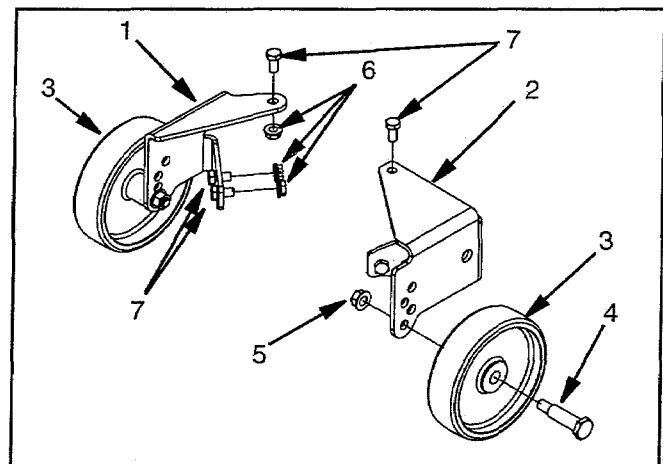

Figure 1
- Refer to Figure 1.
- Working on the left side of the deck, place the smaller Wheel Bracket (Item 1) in position matching up the hole on the top of the deck and the two slotted holes on the Wheel Bracket Mounting Tab with the three (3) smaller holes in the Wheel Bracket.
- Fasten the Deck Wheel (Item 3) and Shoulder Screw (Item 4) to the Wheel Bracket (Item 1) with a 3/8"-16 Flange Lock Nut (Item 5) and tighten securely. Refer to Figure 1.